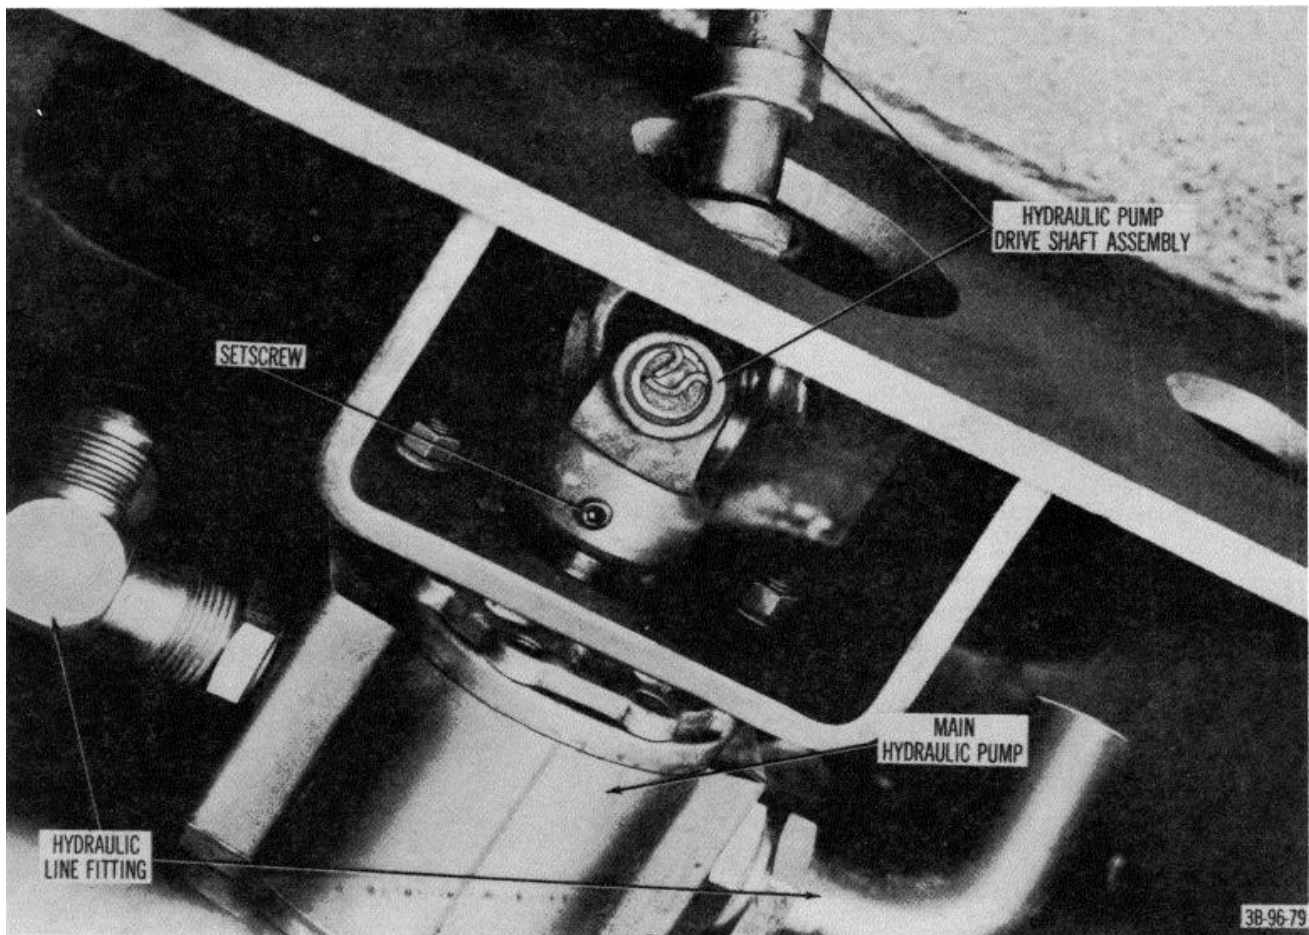

Figure 91. Main hydraulic pump and pump drive shaft assembly, installed on truck.
- (1) Remove rear grill.
- (2) Disconnect hydraulic pump drive shaft assembly (fig. 91) by removing setscrew that secures drive shaft assembly to pump.
- (3) Disconnect and cap inlet and outlet hydraulic lines at pump.
- (4) Remove bolts, nuts, and lockwashers that secure pump to frame and remove pump.
- (2) Loosen setscrew (fig. 91) and slide end yoke from hydraulic pump shaft.